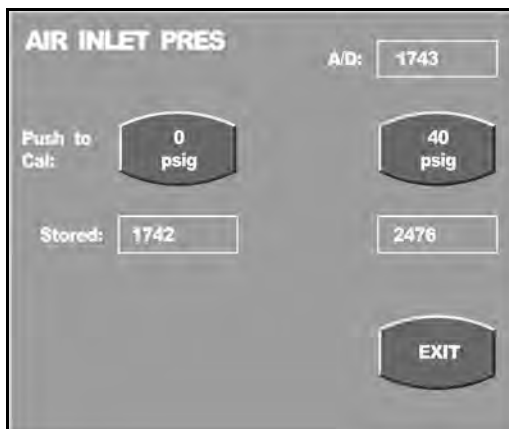

Figure 7.24 Air Inlet Calibration screen
- Press the AIR INLET PRES touch screen button from the calibration screen to access the Air Inlet Pressure calibration screen as shown in figure 7.24.